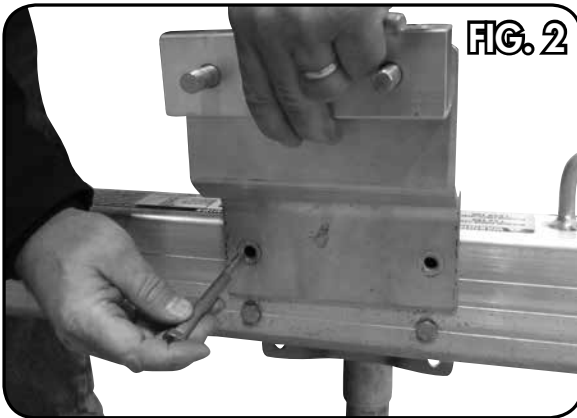

FIG. 2
2. INSERT THE TWO 3/8" X 4" BOLTS INTO THE CARRIER BRACKET AND PLACE THE BRACKET ON THE TONGUE WITH THE BOLTS THROUGH THE TOP TONGUE JACK BOLT HOLES AS SHOWN IN FIGURE 2.